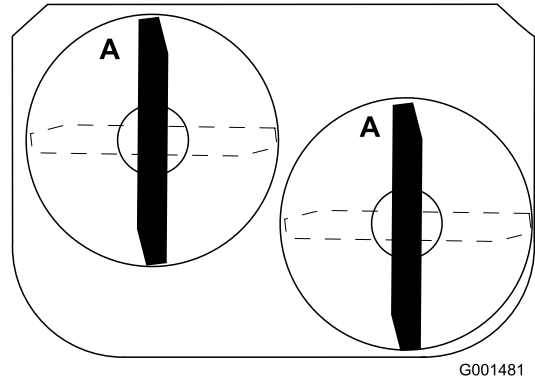

Figure 39
1. Rotate the blades until the ends face forward and backward (Figure 39).